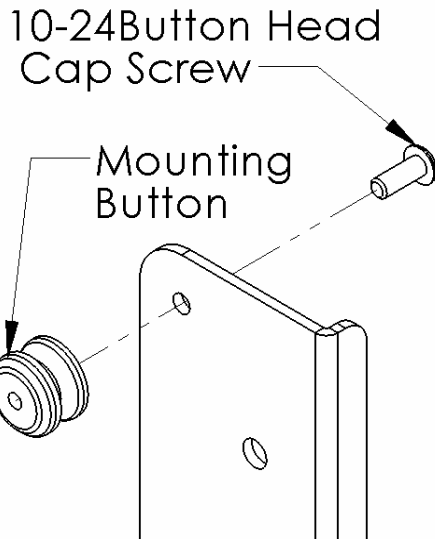
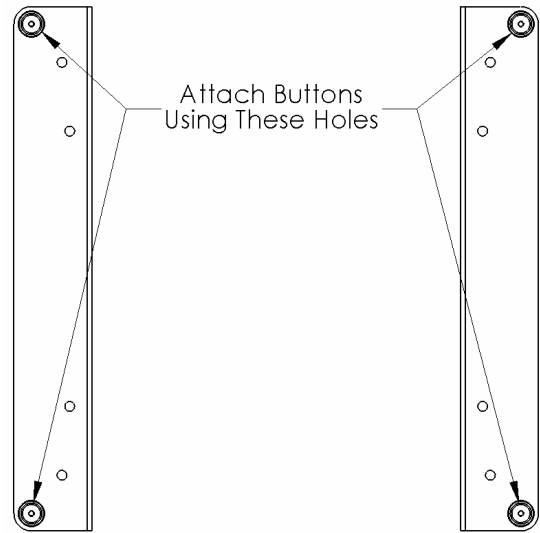

Figure 2
Figure 3
- Using a 10-24 button head cap screw inserted from back side of bracket, secure mounting button, with chamfered hole of mounting button (larger surface) facing bracket, to top and bottom brackets (four places) (see Figure 2 & Figure 3).